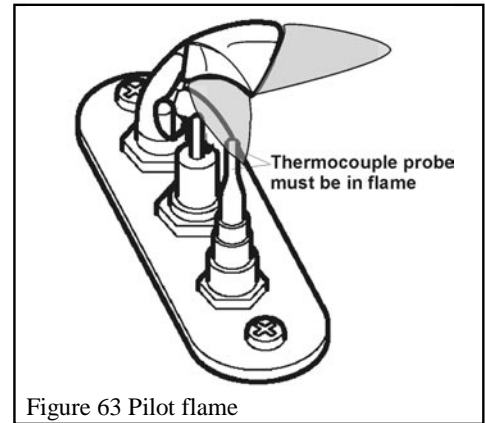

Figure 63 Pilot flame
- A periodic check of the pilot and burner flames should be made. Check after the fire has been on for at least 30 minutes. The pilot flame must cover the tip of the thermocouple probe. The main burner flame pattern will vary from appliance to appliance depending on the type of installation and climatic conditions. See figures 63 & 64.